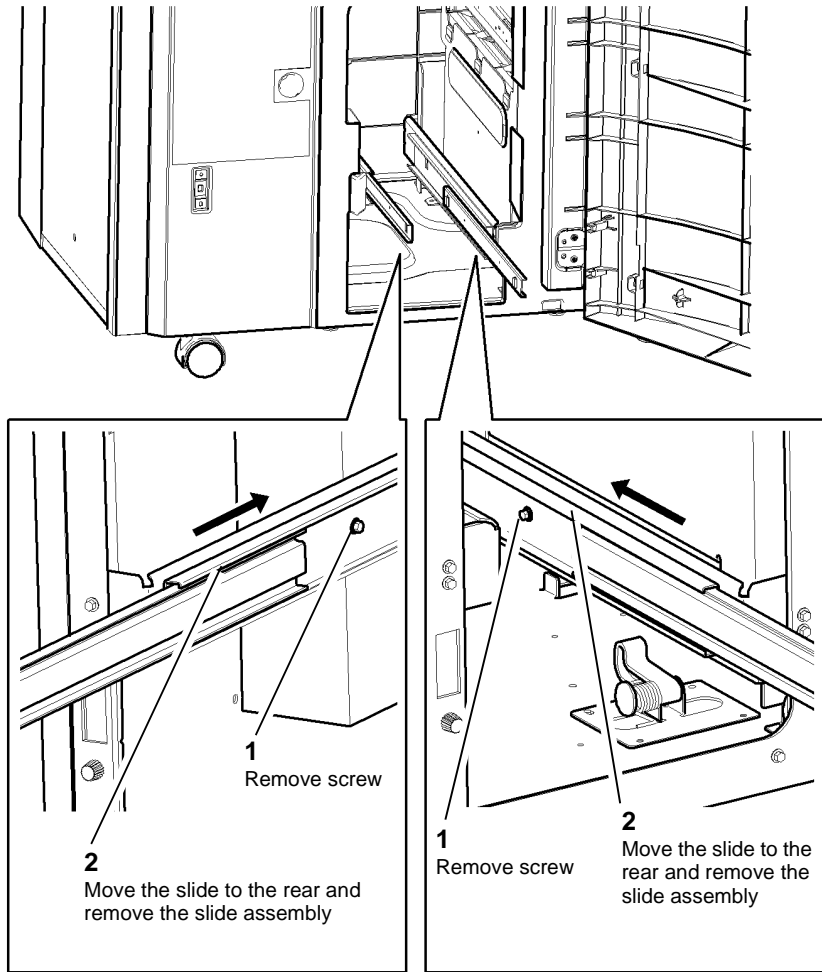

Figure 1 Remove the slide assembly
3. Figure 1, Remove the slide assembly from the HVF BM frame.